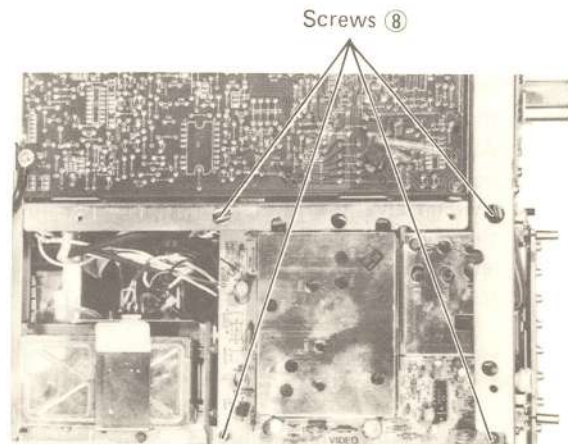

Fig. 3-15
3. Remove the four screws ⑧ on the printed circuit board as shown in Fig. 3-15.